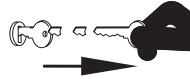

FIG. 3-22
2. Release the lower locks on the quick hitch. (Fig. 3-22)